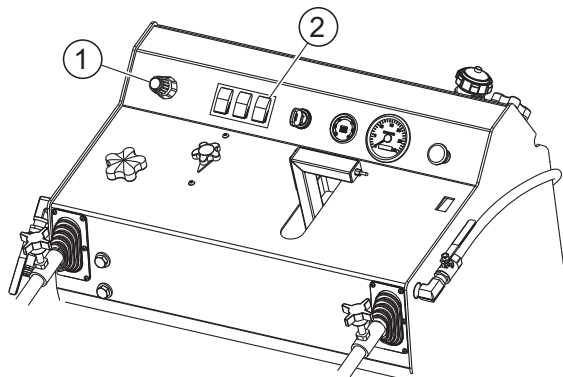

Figure 30. Blade shaft Engage/Disengage
The engine **MUST** be at IDLE when engaging or disengaging blade shaft drive (Figure 30, item 1).
Push rocker switch labeled BLADE SHAFT DISENGAGE (Figure 30, item 2). The engine (via the hydraulic lift cylinder) will tilt forward, disengaging the belt drive.
Push rocker switch labeled BLADE SHAFT ENGAGE (Figure 30, item 2). The engine (via the hydraulic lift cylinder) will tilt backward, engaging the belt drive.